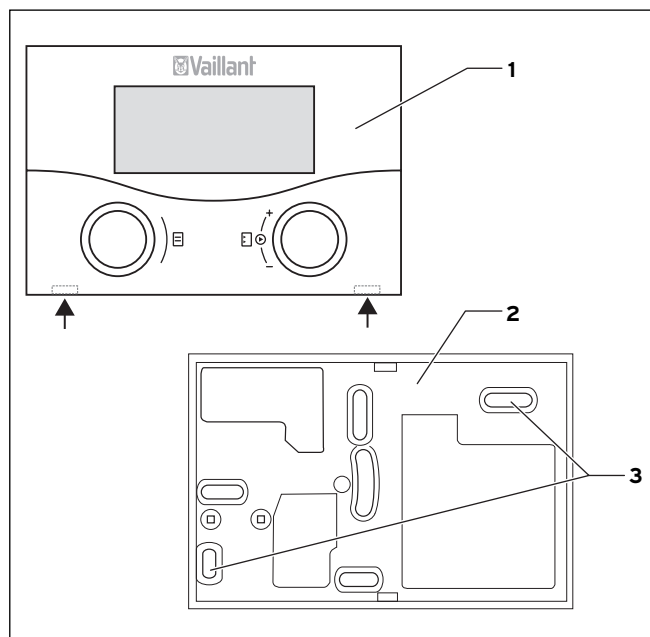

Fig. 4.6 Installing of the VRC 430f
- ⇒ Pull the controller (1) off the wall socket (2). This can be done by pushing a screwdriver into the two retaining straps (see Fig. 4.6 arrows).
- ⇒ Drill two holes 6 mm diameter to suit the fixing apertures (3).